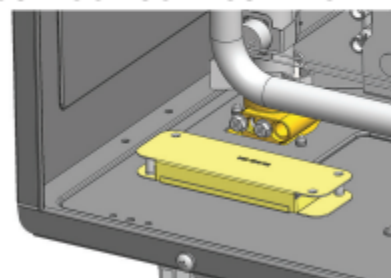

Figure 29 - Air inlet plate orientation options
- 6 Locate the air inlet plate as shown in Figure 29. Remove and keep the 3 screws securing it to the base of the water heater. The plate is color coded and it should be rotated so that the yellow side of the plate is rotated up. Secure with the screws removed earlier.